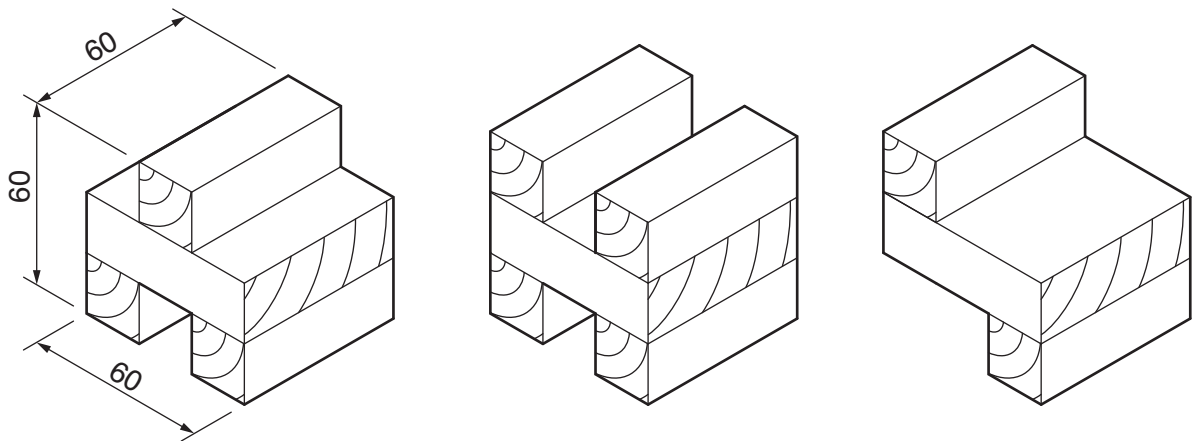

Fig. 1
- 1 Fig. 1 shows three building blocks that are part of a set used by children. The building blocks are constructed from beech strips.
- (c) The building blocks shown in Fig. 1 could have been designed using drawing instruments or CAD.